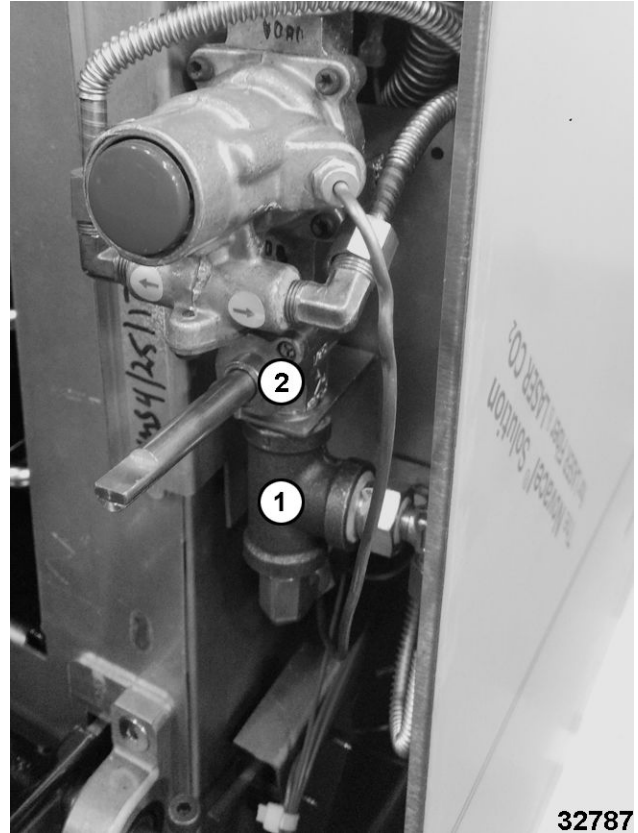

Fig. 47
3. Remove flex line and tee fitting (1, Fig. 47) from bottom of manual gas shut-off valve (2, Fig. 47).